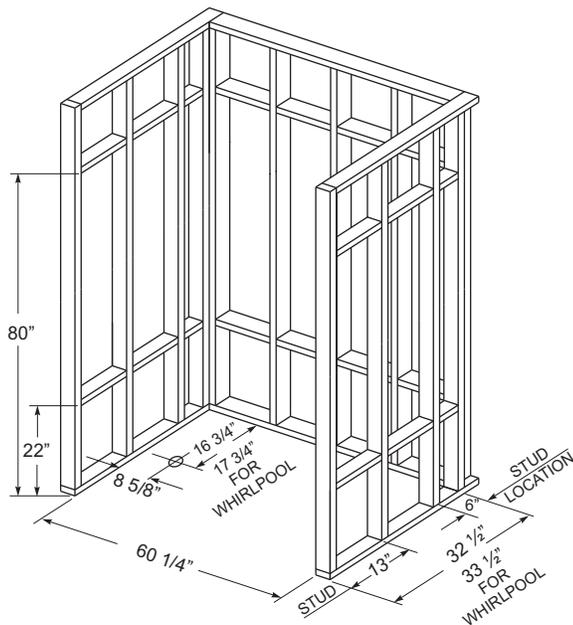
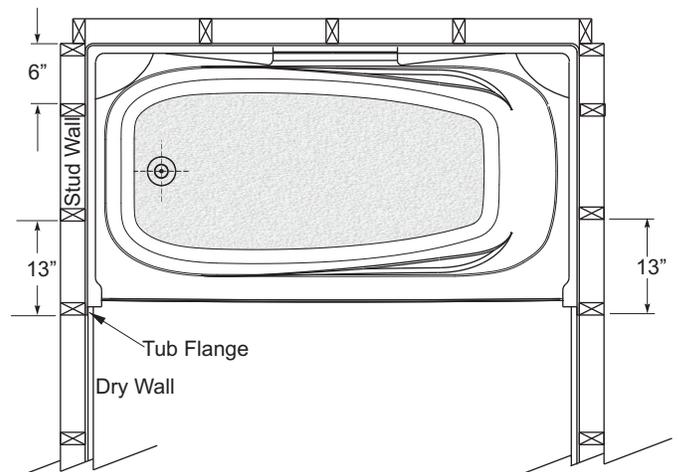

FIGURE 1 - LAYOUT DIMENSIONS
FIGURE 2 - SHOWING THE TOP VIEW OF THE SHOWER IN THE ALCOVE.
- The Tub Shower is to fit into framed alcove as shown in Figure 1 and Figure 2.
Inside dimension of the studded alcove are to be as specified in Figure 1.
- Build solid framing to the dimensions in figure 1.
- Make sure that the vertical studs on the side wall is at the dimension as shown in figure 1 and 2.
- The drain location on the tub shower is shown in figure 1.